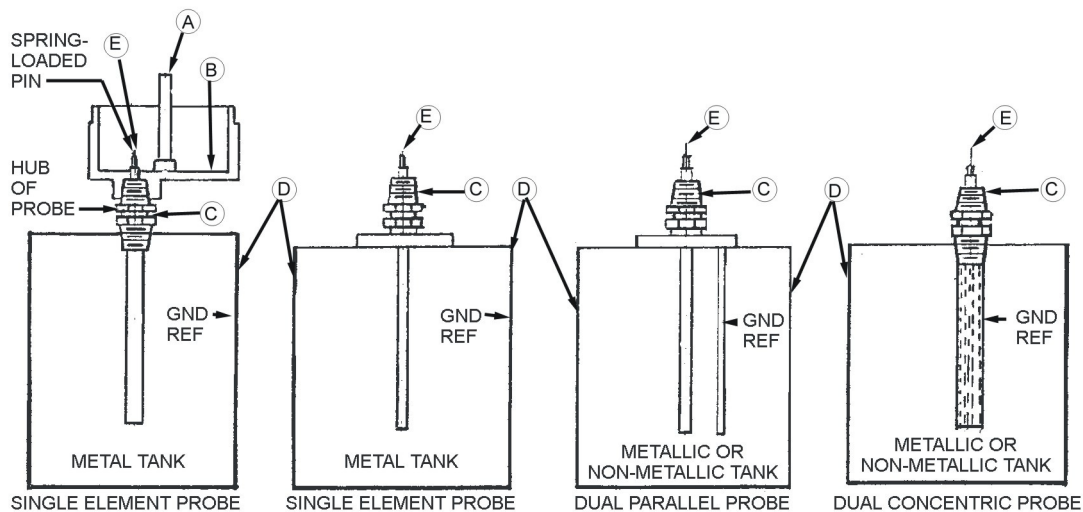

Figure 4-2:
### 6. **Ground Continuity and Probe Checks (Refer to Figure 4-2 below):**
- 2) Connect a hand-held capacitance meter between points E (spring-loaded pin ) and C (probe ground) per Figure 4-2. Capacitance readings should be stable. Changes in capacitance should be linear and directly proportional to changes in level. The approximate capacitance span for a given application may be obtained by consulting the factory.